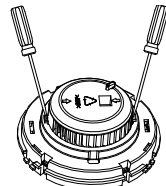

Fig.9
a) Open the top cover of detector, and draw out the sensing chamber by slightly lifting its two sides using a straight screwdriver, as shown in Fig. 9.